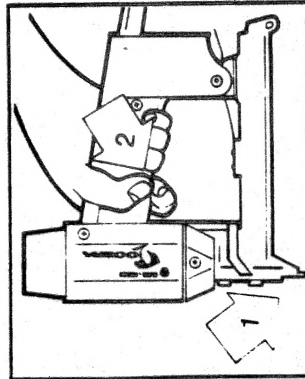

FIG. 2
1. **TRIGGER OPERATION** (See Fig. 2)